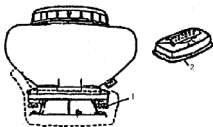

Fig.1 1.Nut 2.Dusting Plate
1)Remove the tow wing nuts fixed on the chemical tank and take down the tank. Change dusting lid plate for spraying lid plate, then assemble the chemical tank and screw down wing nuts as shown in Fig.1.